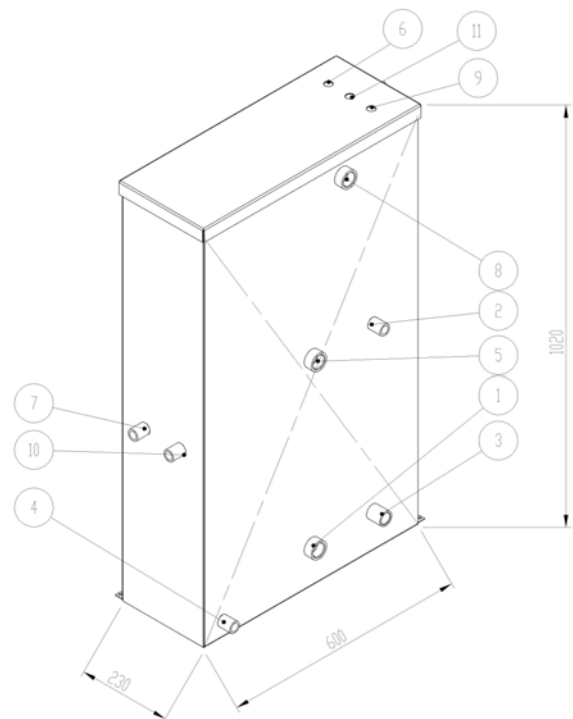

Fig. 9
3.1.2 CONDENSATE TANK (Fig. 9)
- 7) Open the boiler drain and check on the level indicator at what level the pump-start probe acts (7 Fig. 9);
- 8) Set the pump switch to "0" leaving the drain open and check the actuation level of the safety probes (8 e 9 Fig. 9) with respect to the minimum level reference plate.